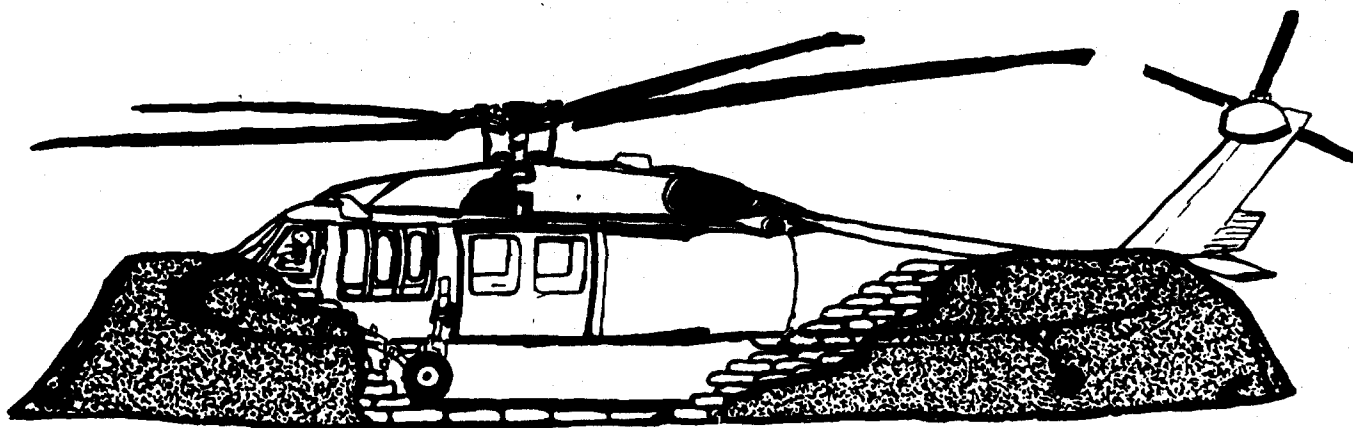

FIGURE 23. AIRCRAFT PROTECTED IN REVETMENTS.
--"Place aircraft in revetments." Although revetments provide little significant protection against blast overpressure and may in some cases magnify the blast effect, revetments and barricades will protect the aircraft from damage by dynamic winds and the impact of rocks, sand, and other aircraft or aircraft debris (see figure 23). The tactical situation may also require revetting for protection from conventional weapon blast and fragmentation damage.